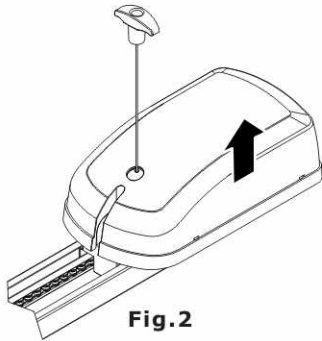

Fig.2
- Remove the Drive Unit cover (Fig.2) by pulling outwards and upwards, on both sides, at the location marked by the arrow.